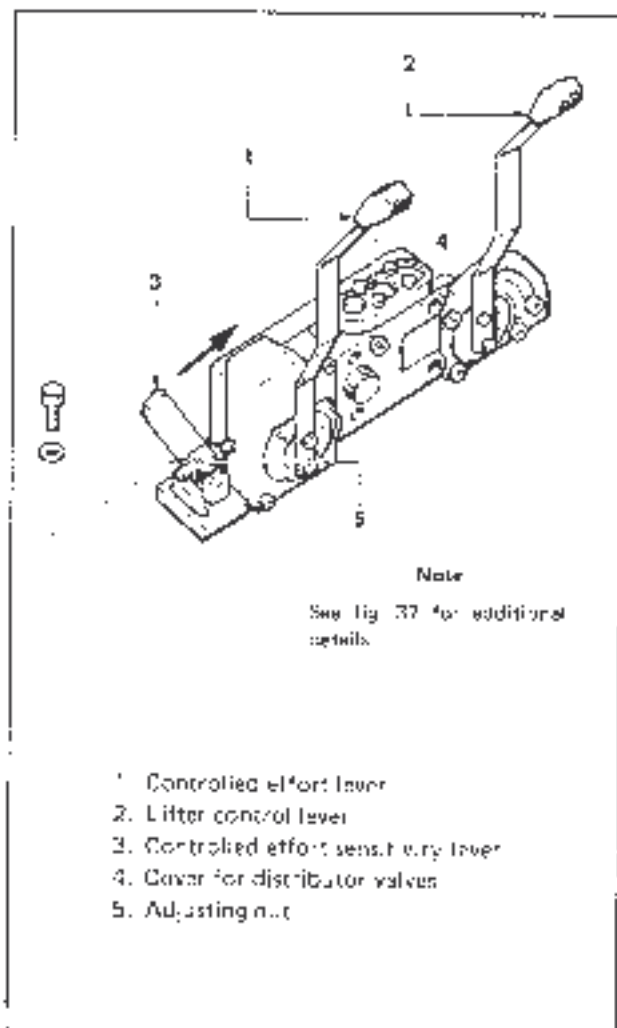

Figure 35. Check of hydraulic lifter operating pressure
OPERATING PRESSURE OF HYDRAULIC LIFTER (see fig. 35)
- Fully depress lever (fig. 35, item 3) to direction shown and hold it in place.